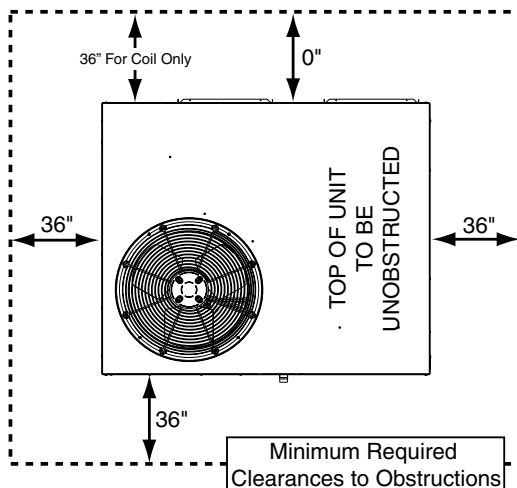

Figure 1. Clearance Requirements
P8SE units are certified as cooling equipment for outdoor installation only. Figure 1 displays the minimum clearances to obstructions for downflow and Horizontal discharge.
Sufficient clearance for unobstructed airflow through the outdoor coil must be maintained in order to provide room for proper servicing and achieve rated performance. See Figure 1 for minimum clearances to obstructions.
- Clearances must be in accordance with those shown in Figure 1, \(page 4\).